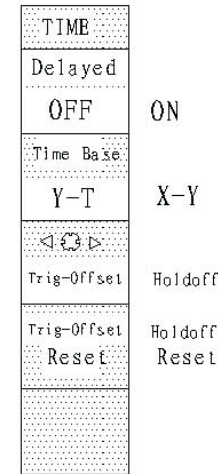

Fig.2-10
3. Horizontal menu, as Fig.2-10.